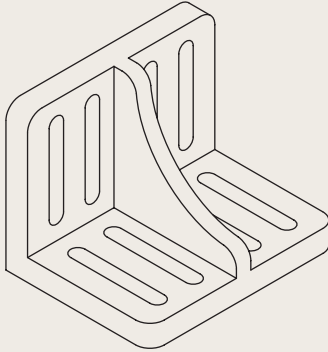

Fig. 7.28 An isometric drawing of the angle plate on which exercises 6 and 7 are based
7. Construct an isometric drawing of the angle plate shown in Figures 7.28 and 7.29.